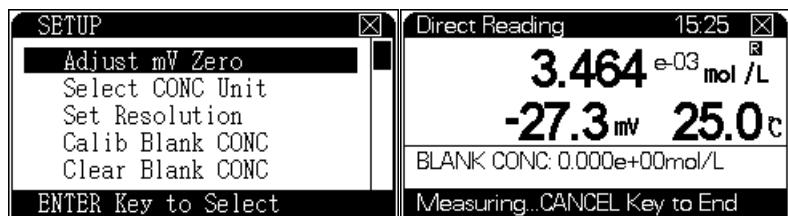

Figure 29 Calculated result
- 6** When the reading becomes stable, the meter calculates measurement result as shown in Figure 29.